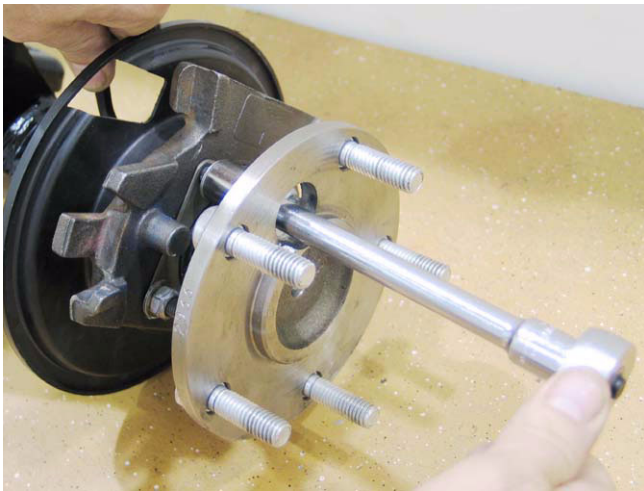

Figure 14.5
14.5. Remove the nuts from the four socket-head cap screws that hold the brake bracket assembly to the axle tube using a 1/2" wrench. See Figure 14.5.